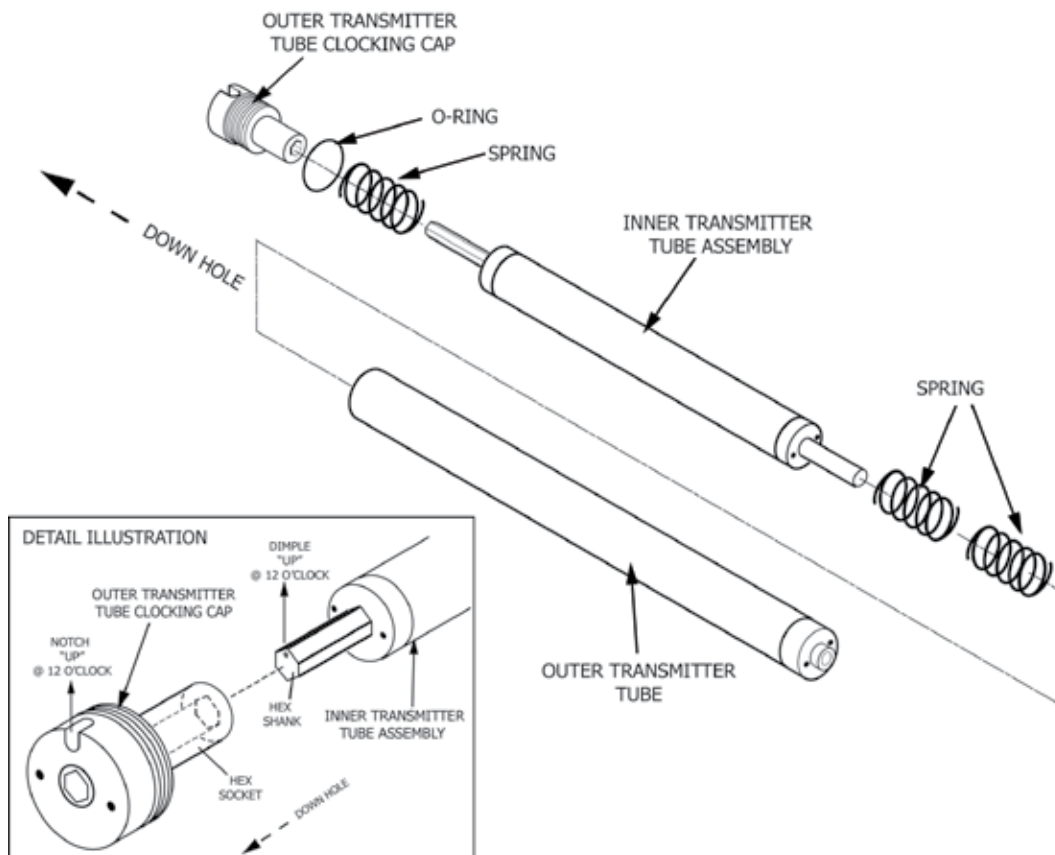

Fig. 22
5. Reassembly of the outer transmitter tube is as follows (see Fig. 22): Insert spring into the outer transmitter tube followed by the inner transmitter tube assembly (clocking cap oriented "down hole").